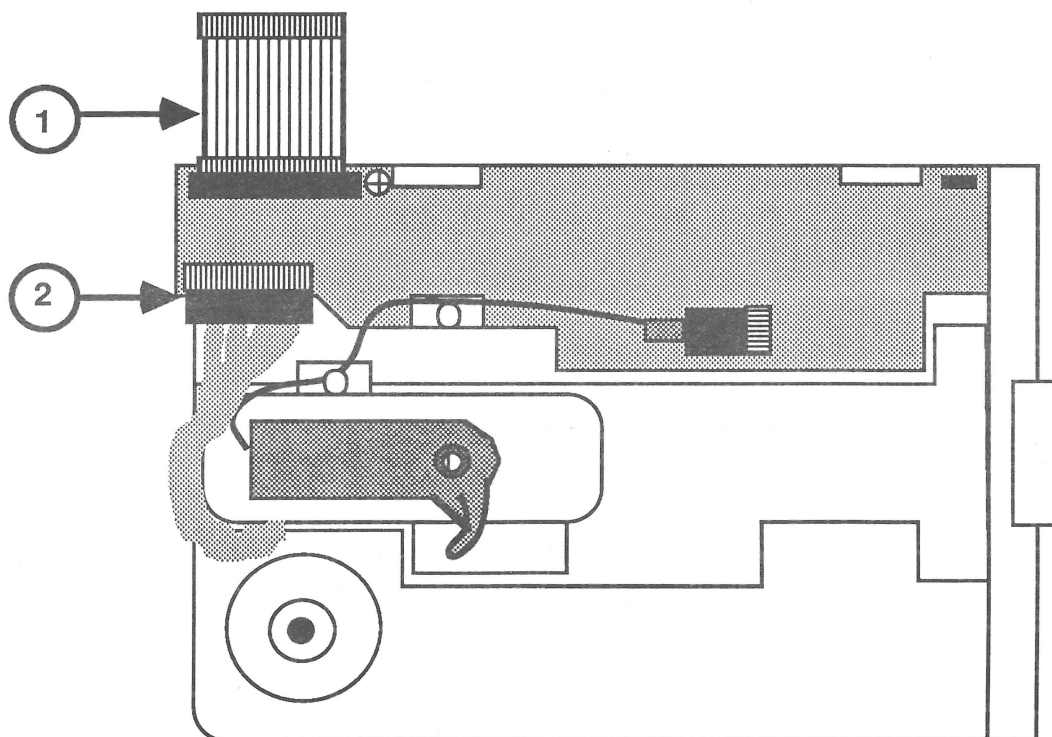

FIGURE 3
2. Remove the cable from the disk drive (Figure 3, #1).
5. On the analog card, disconnect the cable from connector J2 (Figure 3, #2).